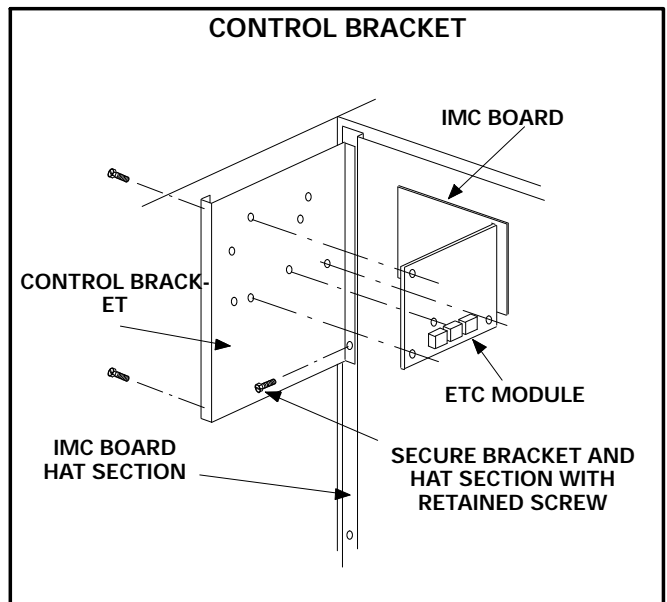

FIGURE 5
- 4- Locate two small dimples on outside of unit which line up with screw holes on U-shaped bracket flange. Drill two holes in place of dimples and secure bracket to side of unit with screws provided. See figure 5.